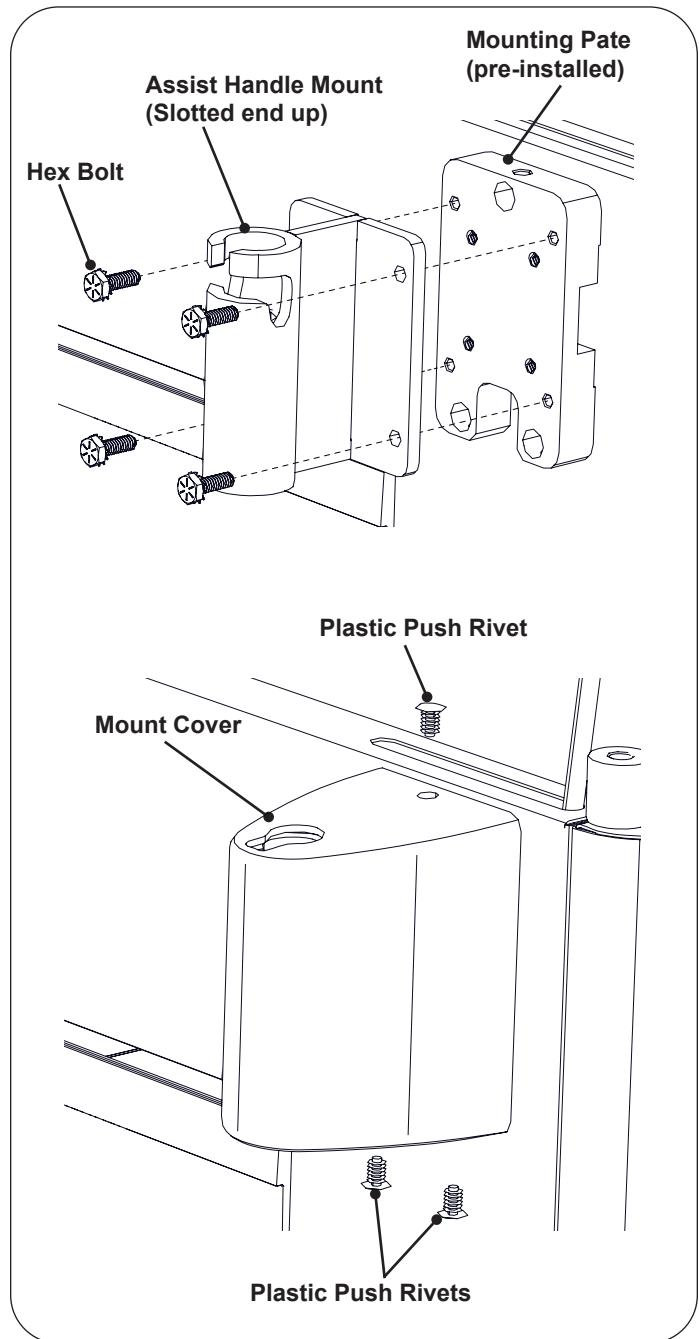

Figure 6. Installing the Patient Assist Handles
1. Align the assist handle mount with the hole pattern on the mounting plate (pre-installed on the table). Be sure that the slotted end of the assist handle mount is facing up. Use 4 hex head bolts to fasten the mount to the plate. (See Figure 6)
2. Slide the mount cover over the assist handle mount with the keyhole cutout facing up. Align the top mounting hole with the hole in the top of the mounting plate. Insert one plastic push rivet and push down with thumb until flush with top of the cover (see Figure 6).